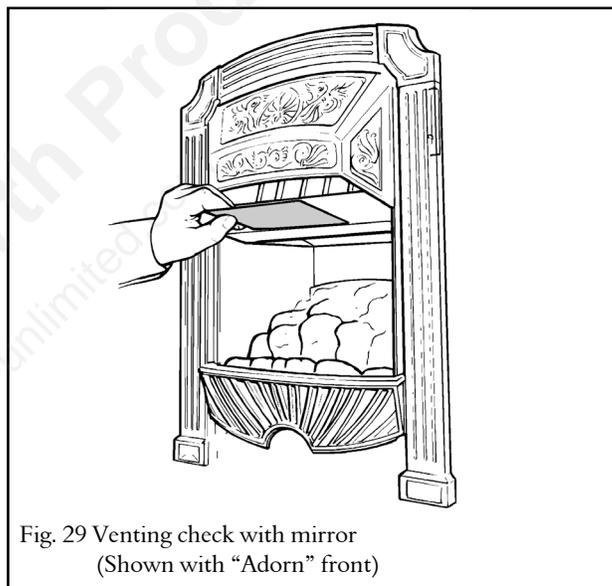

Fig. 29 Venting check with mirror
14.2 "Visage" front; Fit the fire front casting to the front surround. Locate the two screw heads at the rear top corners of the casting through the keyhole slots at the inner sides of the surround. If the screw heads do not project enough or project too far, the screws can be adjusted. Lower the casting so that it rests on the floor (see figure 29).